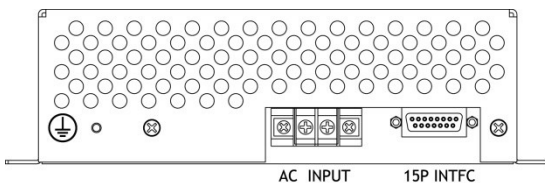

Figure 5
3. **Interface Connection:** Connect user system to Interface 15 pin D-sub connector shown in Figure 5. (Although the user interface is typically designed by the user, Lumina Power can provide any assistance necessary to modify interface program and monitor levels) See Table 1 and Figure 4 for description of XLB-1000/1500 Interface and the associated simplified interface schematic.
- a. **AC Input Power Connection:** Input power is as shown below in Table 2. Connect AC power connections to power supply input power terminals. Refer to Figure 5 for location of AC Input.